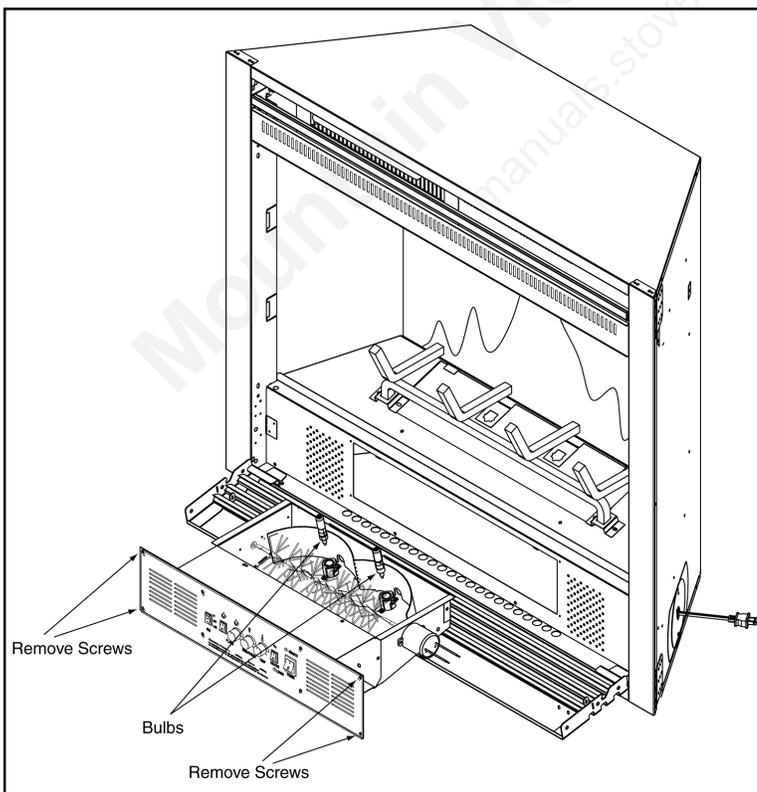

Figure 12
- Remove the four outer screws. See Figure 12.